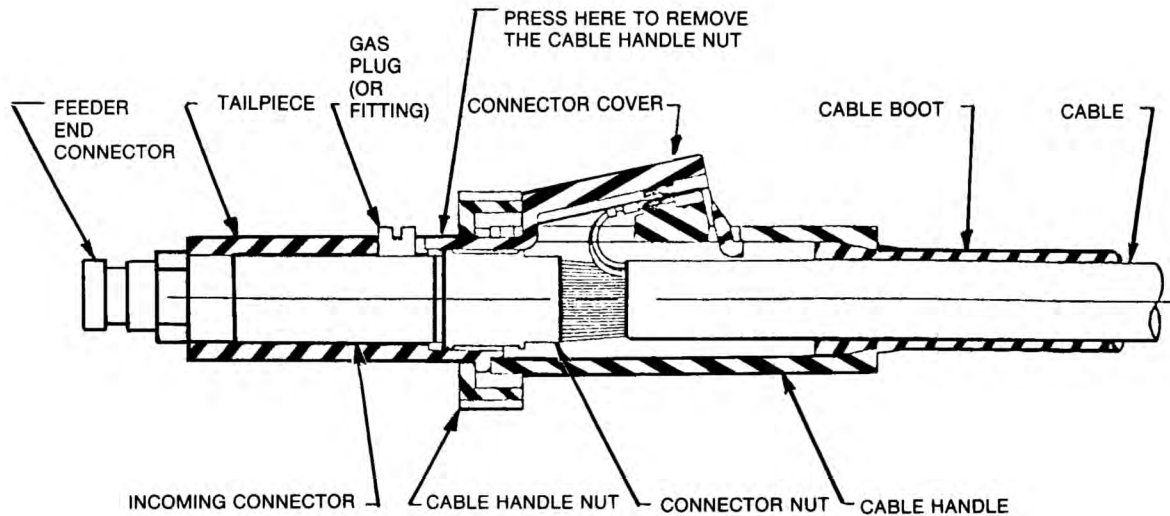

FIGURE D.4
- Remove the feeder end connector, molded gas plug (or barbed fitting), cable handle nut, plastic tailpiece and connector cover (see Figure D.4).
- Position cable boot and cable handle on cable and assemble replacement control wire terminals in place on the cable handle. Insert connector cover in place. Install tailpiece and fasten to cable handle with cable handle nut. Refer Figure D.4.